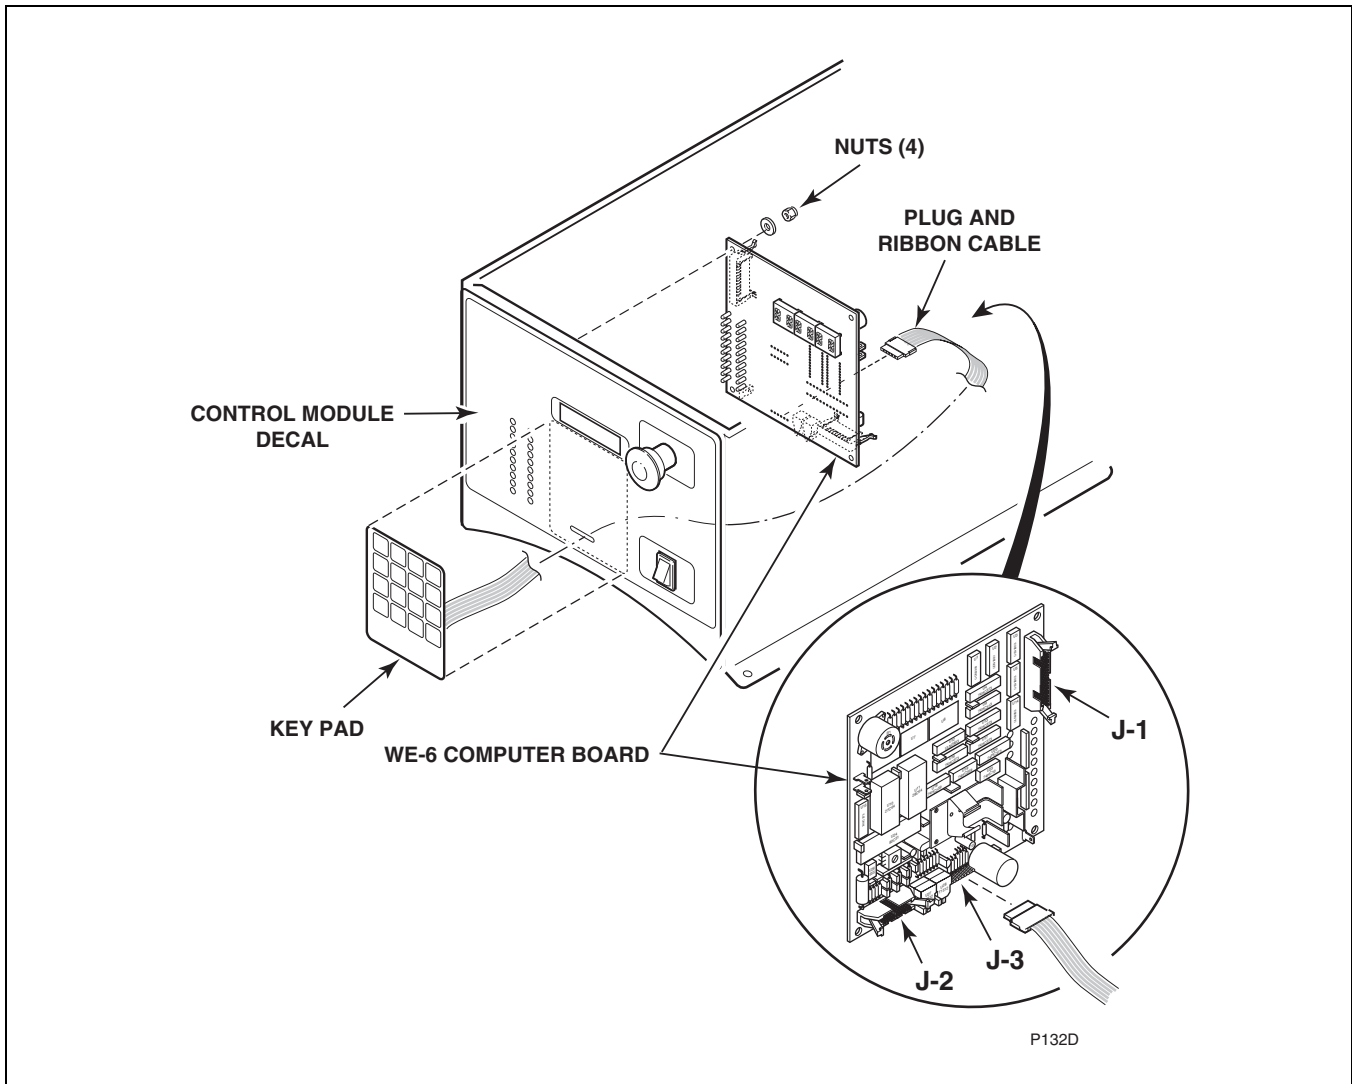
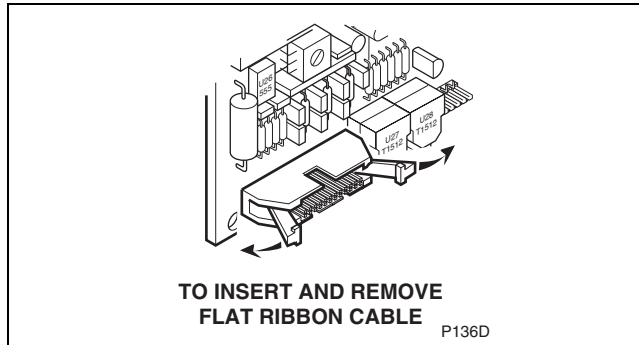
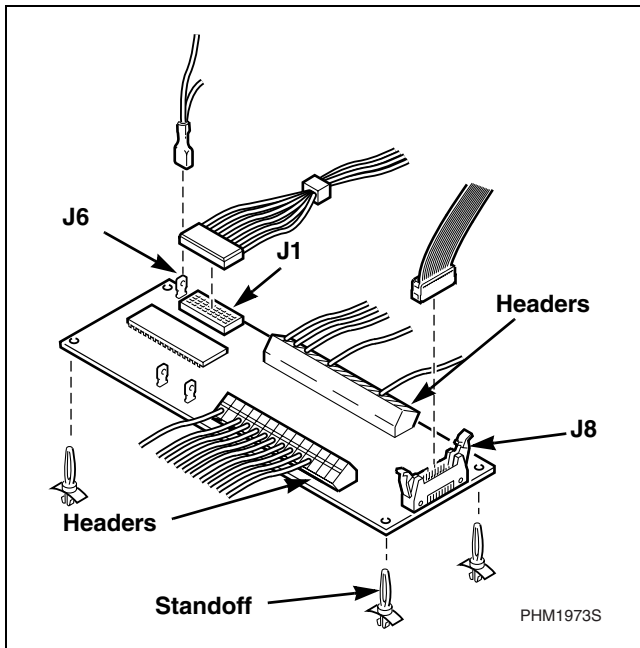

Figure 4
Figure 6
Figure 10
- (1) Check the plug (J-3) at the bottom center of computer board for proper installation. Refer to *Figure 4*.
- (2) If the plug is intact and is installed correctly, proceed to *Paragraph 25*.
- e. Unplug the connector at J-3 (located on the bottom center of the computer board). Refer to *Figure 4*.
- d. Carefully connect the ribbon cable plug to J-3 at the bottom center of the computer board. Refer to *Figure 4*. The cable must not be twisted and the plug must be centered in the receptacle.
- d. Carefully disconnect the 16-conductor ribbon cable plug near the battery at J3, refer to *Figure 4*. Note the position of the red stripe to properly reinstall the cable. Use care when reconnecting this plug to avoid bending pins. Make sure that the pins are aligned with the sockets in the board before carefully seating the plug into the socket.
- e. Disconnect the 26-conductor ribbon cable connector at J1 by pushing on the “ears,” refer to *Figure 6*.
- f. Disconnect the remaining 16-conductor ribbon cable connector at J2 (refer to *Figure 4*) by pushing on the “ears.” Refer to *Figure 6*.
- d. Disconnect the 26-conductor ribbon cable at the center of the board (adjacent to the transformer) by pushing on the “ears.” Refer to *Figure 6*.
- c. Label the headers and remove them from the interface board, refer to *Figure 10*.
- d. Disconnect the 16-conductor ribbon cable plug at J8 (refer to *Figure 10*) by pushing on the “ears.” Refer to *Figure 6*.
- e. Label and disconnect the ground wire at J6. Refer to *Figure 10*.
- f. Carefully disconnect the 16-conductor ribbon cable plug from J1. Refer to *Figure 10*. Note the notch on the socket of the ribbon cable. During installation use this notch as a reference to connect this plug correctly.